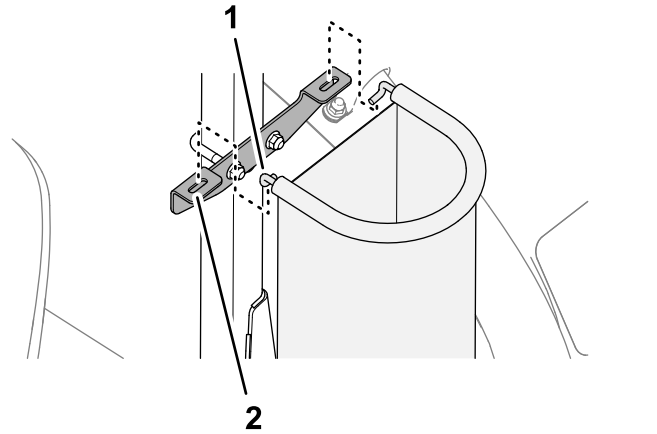

Figure 28
5. Insert the hooks of the hoop rod into the slots in the mount bracket (Figure 28).